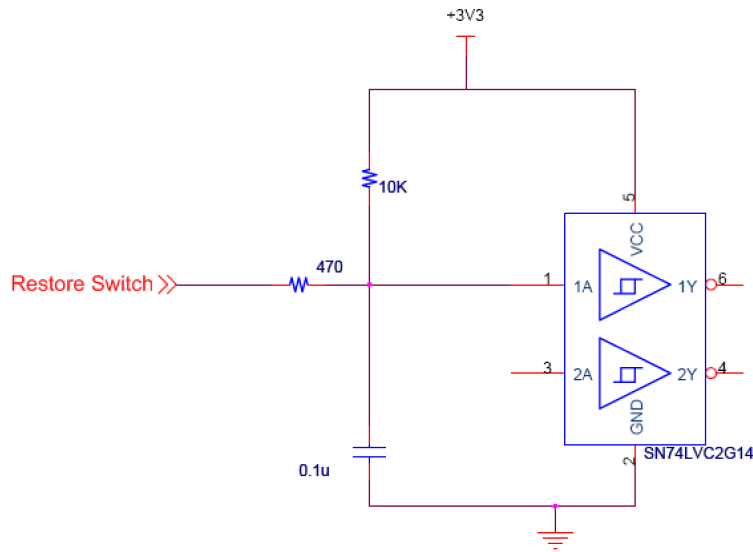

Figure 1 Restore Switch Debounce Input Stage
The Restore Switch signal input to the PM2511 includes a debounce circuit to support direct connection to a mechanical push button, as illustrated in Figure 1.
* Input includes a debounce input stage as illustrated in Figure 1.